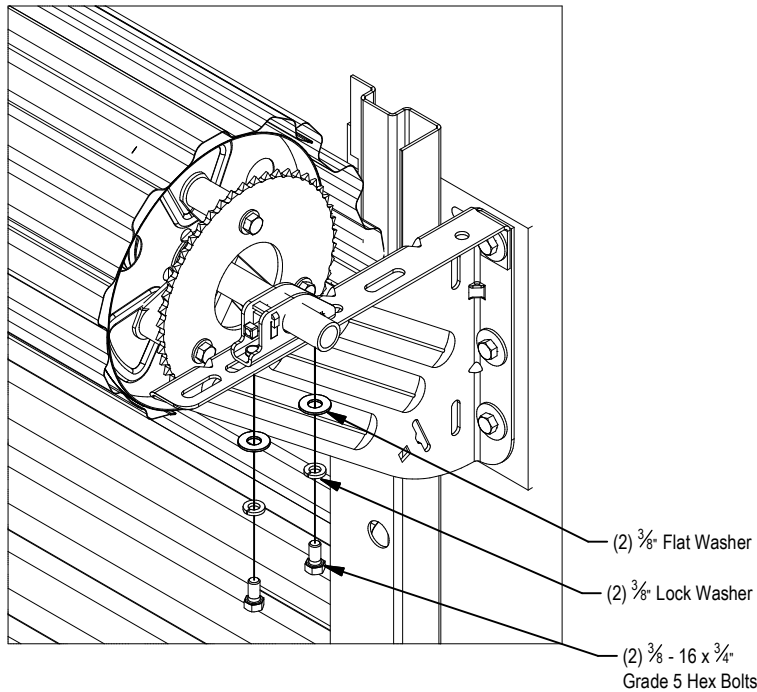

FIGURE 19:
- Attach stamped axle support to door bracket using two (2) each $\frac{3}{8}$ - 16 x $\frac{3}{4}$ " grade 5 hex bolts, $\frac{3}{8}$ " lock washers and $\frac{3}{8}$ " flat washers. **See Figures 19.**